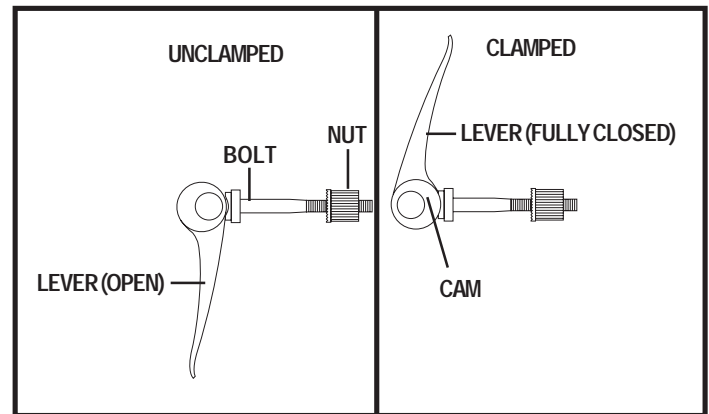

Figure 12. Quick Release Fastener Operation
2. Tighten and clamp the quick-release fastener. See figure 12.
Quick Release Fasteners: The seat is secured to the seat post with a quick release fastener. The quick release fastener consists of a bolt, a lever, and a nut. See figure 12. The lever has a cam on the end that allows it to clamp into place. The quick release fastener has two states: clamped and unclamped. When the lever is open, the quick release fastener is unclamped. When the lever is closed, the quick release fastener is clamped.
7. Tighten and clamp the quick-release fastener. See figure 12.